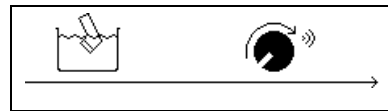

Figure 9
- 13) Now turn up the intensity knob (see figure 9). The Phyaction will now tune the treatment head. The Phyaction 190 will show figure 10 and 11 during tuning. The Phyaction will show if the tuning has succeeded. It shows the frequency at which it is tuning the head, followed by the message 'Done' or 'Bad'.